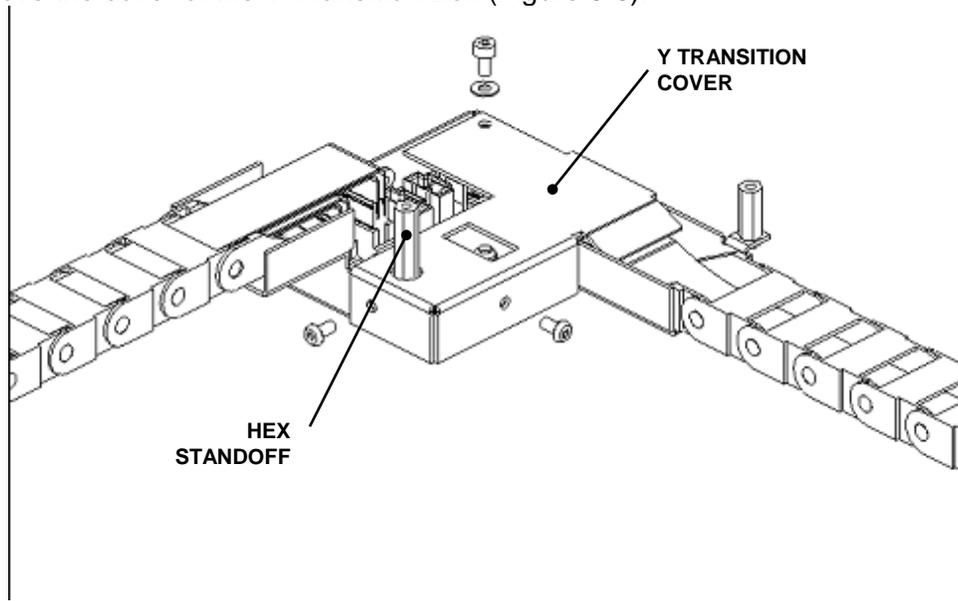

Figure 8-8: Removing Cover of Transition Box
2. Remove the transition box (see Figure 8-8).
4. Remove the cover of the Y-Transition Box (Figure 8-8).